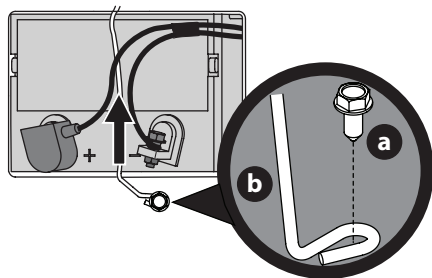

Fig. 15
3. Remove the hex washer screw (a) securing the battery hold-down rod (b) to the frame. Then flip the battery hold-down rod (b) up to free the battery (Fig. 15).